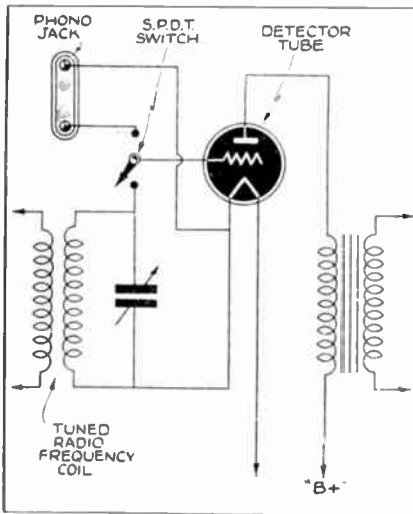

Fig. 42
(A) See Fig. 42 and the answer to the preceding question for the recording set-up. The microphone, which may be a single-button carbon one, is connected to the primary of a microphone transformer, the secondary of which connects between grid and cathode of the detector tube (second detector in a super-het.) The regular grid coil is best disconnected while you are recording.